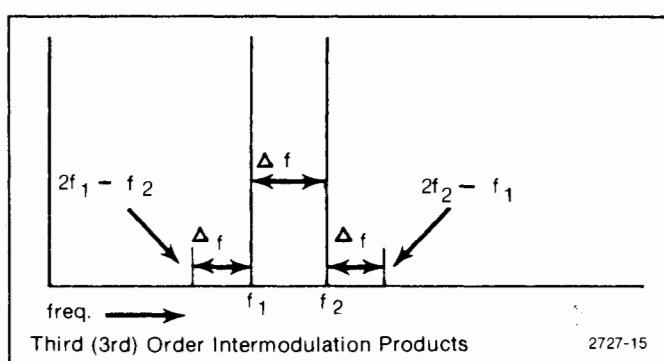

Figure 4-15. Intermodulation products.
- Check that the third order IM products are at least 70 dB down from the input signal level. See Figure 4-15.